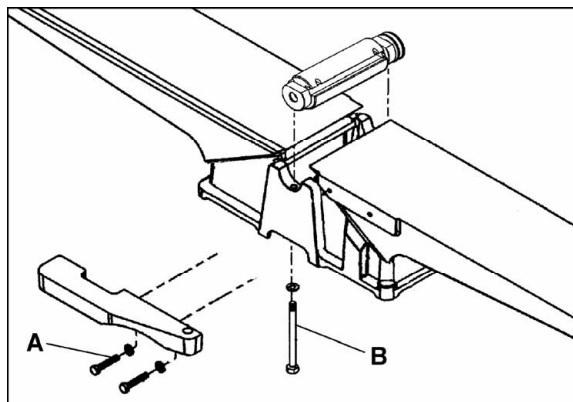

Figure 35
7. Remove rabbeting ledge by loosening the two hex cap screws and washers (A, Figure 35).
8. Loosen the two bolts (B, Figure 35) that secure the cutterhead to the bed – these are accessed from the underside of the bearing blocks.